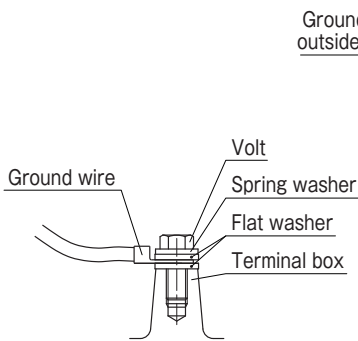

Figure 1
(1) Connecting the ground wire of the terminal box
① To prevent electric shock accidents, be sure to connect the ground wire.
② Connect the ground wire from the  marked part.
③ For MD and MDF series (excluding MD series 0.2kW), connect the ground wire by sandwiching it between two flat washers. (See Figure 1)